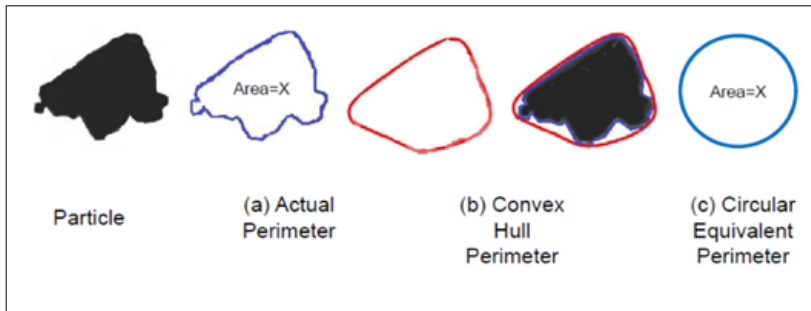

Fig. 14 Parameters relevant to particle shape characterisation [5]
- Convexity = Convex Hull Perimeter (b)/Actual Perimeter (a) (Fig. 14)
- Circularity = Actual Perimeter (a)/Circular Equivalent Perimeter (c) (see Fig. 14) .